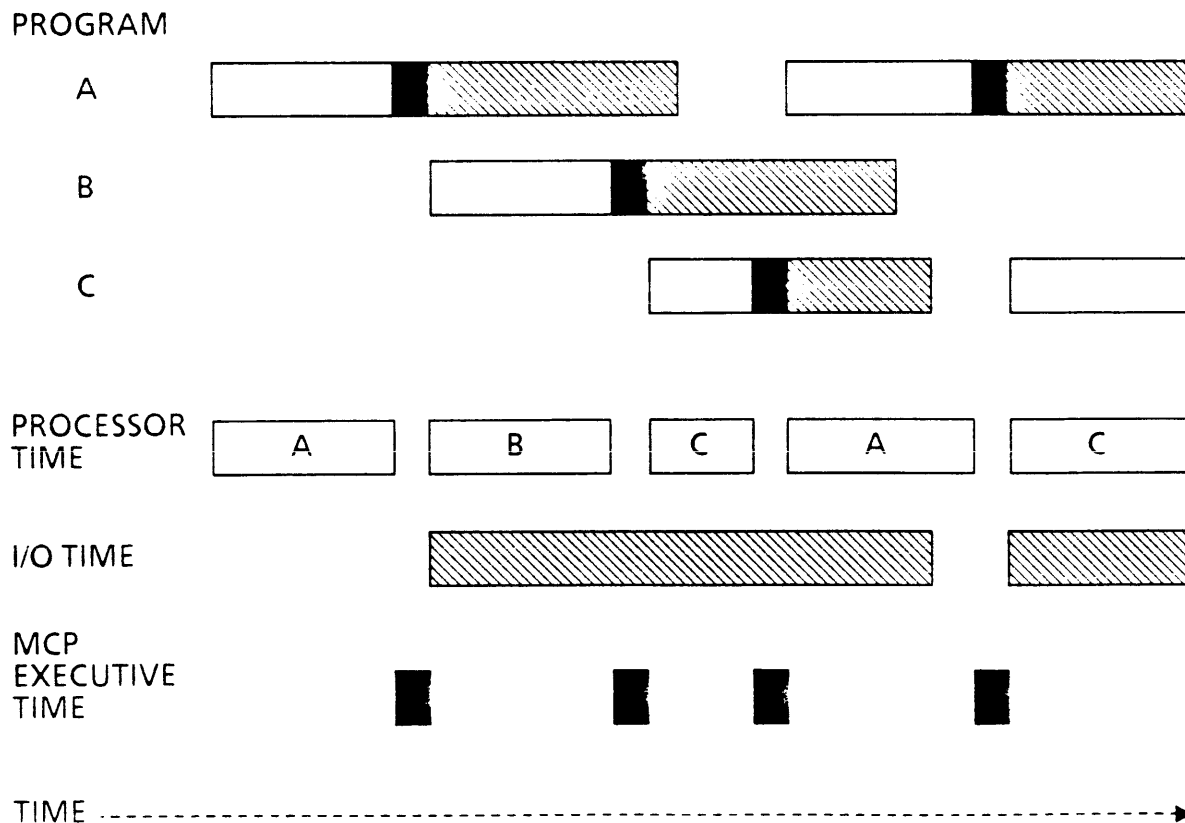

Figure 5-1 Multiprogramming
**Multiprogramming** allows many programs to share a single processor. A processor may execute only one program at any point in time, but when that program is interrupted (for example, to read from a disk), the processor can execute a portion of another program until it is interrupted again. Multiprogramming improves throughput by keeping the processor busy whenever there are programs ready to execute, as shown in Figure 5-1.